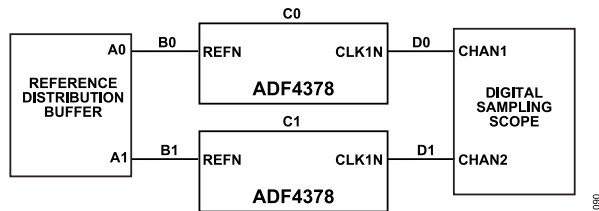
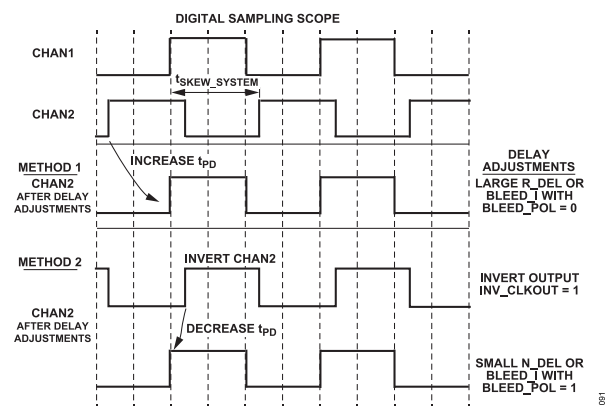

Figure 100. Total System Skew
Figure 101. Skew Adjustment Methods
Due to the controlled t_{PD} of the ADF4378 devices, it is reasonable to expect that a significant portion of the total system skew (t_{SKEW_SYSTEM}) is due to propagation delay mismatches in traces or cables (t_{SKEW_B} , t_{SKEW_D}), and skew in other components (t_{SKEW_A}) or instruments (t_{MEAS_ERROR}). Figure 100 and Equation 24 provide several sources of possible output skew error in a typical system. The Clock Skew in Large Multi-GHz Clock Trees article outlines the skew trade-offs in component selection, board design, and end-user cost requirements in large clock trees.
Figure 45 and Figure 43 show a general trend that an increasing magnitude of R_DEL, N_DEL, or BLEED_I bit fields, Bits[9:0] causes a small increase in L_{NORM} and $L_{1/f}$. Increases in L_{NORM} and $L_{1/f}$ result in clock jitter (see Figure 12 and Figure 15). Therefore, in the most performance sensitive applications, identifying ways to minimize the magnitude of the R_DEL, N_DEL, or BLEED_I bit fields, Bits[9:0] values is required. As an example, Figure 101 provides two skew adjustment methods to minimize the skew in Figure 100. Method 1 only adjusts one of the reference to output delay adjustments provided in Table 39. Method 1 results in an R_DEL, N_DEL, or BLEED_I bit fields, Bits[9:0] maximum adjustment equal to half an output cycle, or $1/(2 \times f_{OUT})$. Method 2 minimizes the magnitude of R_DEL, N_DEL, or BLEED_I bit fields, Bits[9:0] by utilizing the output invert along with either R_DEL, N_DEL, or BLEED_I bit fields, Bits[9:0] adjustments. When compared to Method 1, Method 2 results in a lower R_DEL, N_DEL, or BLEED_I bit fields, Bits[9:0] maximum adjustment of a quarter cycle output cycle, or $1/(4 \times f_{OUT})$. Method 2 is further described in Table 41.
5. Program skew adjustments per Method 2 for other ADF4378, as shown in Figure 101.